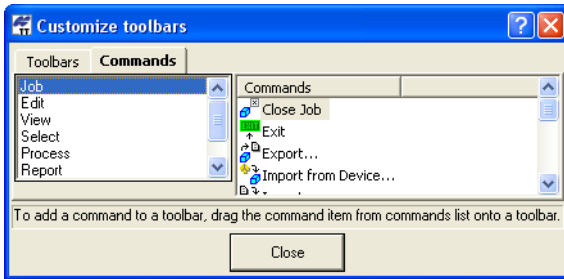

Figure 1-21. Toolbar Commands
3. Click the *Commands* tab. The left panel displays a list of menus and the right panel displays commands available for the selected menu (Figure 1-21).